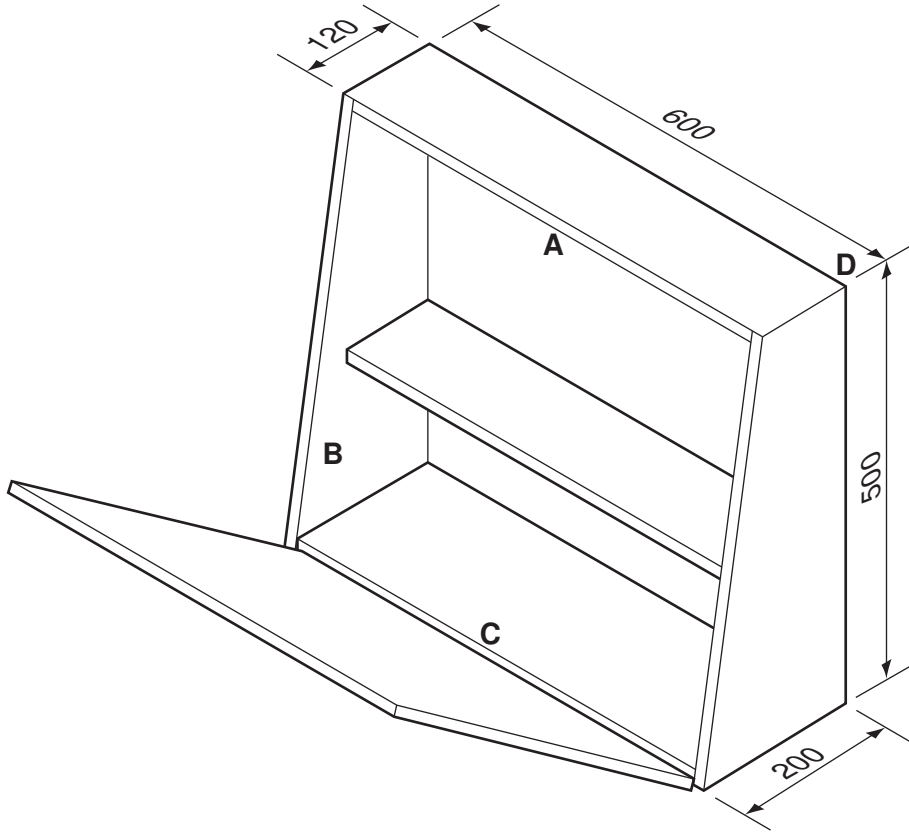

Fig. 1
- 11 Fig. 1 shows an incomplete design for a cabinet made as flat pack for self-assembly.